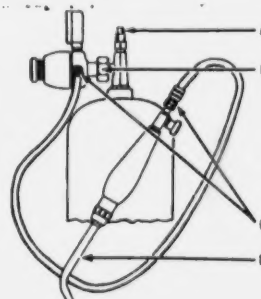

Figure 5.
1. Turn the pressure adjusting screw of the regulator assembly (E, Figure 5) counterclockwise, all the way out, to place the diaphragm-type valve in a closed position.
2. Connect regulator (B), with hose assembly (C) and tip (D) attached, to the tank. Tighten the nut securely with a wrench.
3. Open the tank valve (A) 1/4 turn. Use a tank key and leave it on the tank.